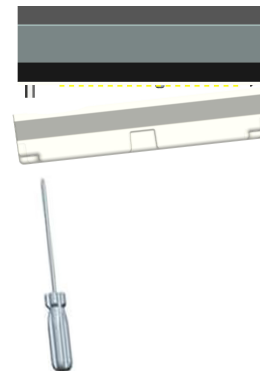

FIG.7
4. Remove the PC protective cover on the LED head (see FIG. 7). The PC cover is only meant to protect the LEDs during shipment and installation. It has to be removed after installation.
5. Remove the PC protective cover on the LED head (Refer to FIG. 7). The PC cover is only meant to protect the LEDs during shipment and installation. It has to be removed after installation.